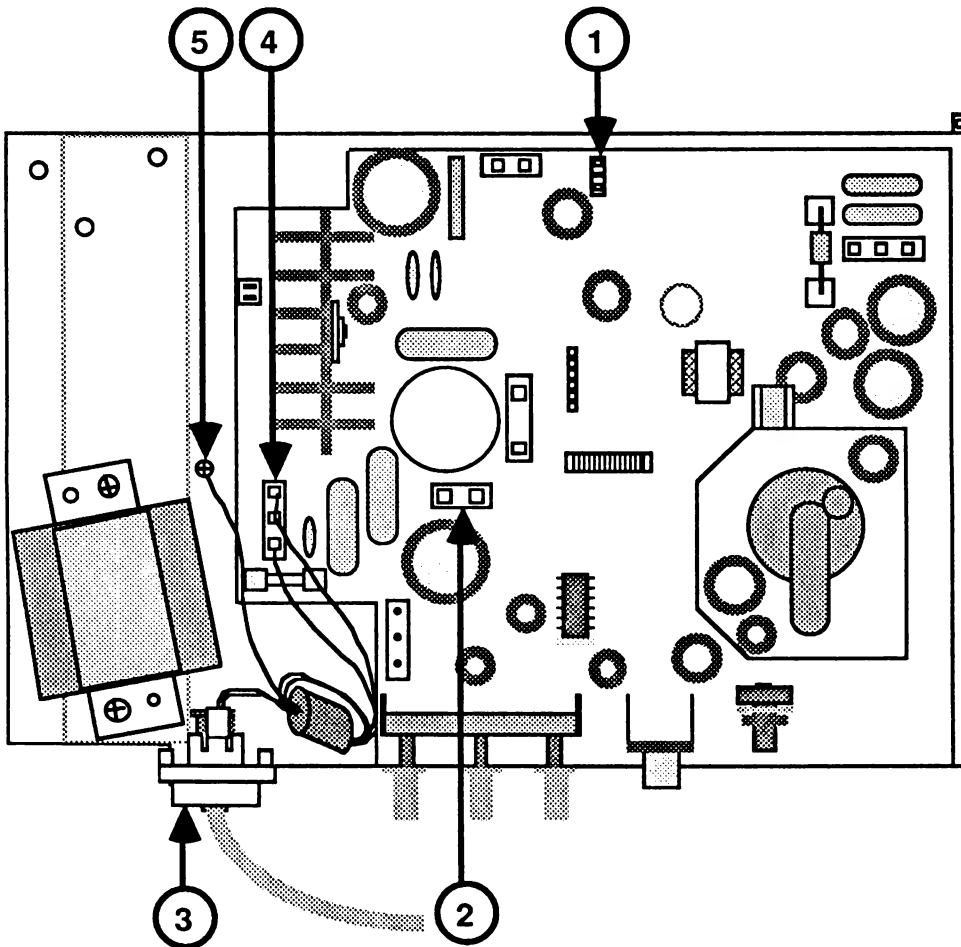

FIGURE 6
- a) Disconnect the contrast control connector (P8) from the board (Figure 6, #1).
- b) Disconnect the orange on-off control connector (P7) (Figure 6, #2).
- a) Unfasten the screw holding the AC cord mounting plate to the case and lift the mounting plate out of the case (Figure 6, #3).
- c) Unplug the AC input connector from the main logic board (Figure 6, #4).
- d) Unfasten the green ground wire (Figure 6, #5).